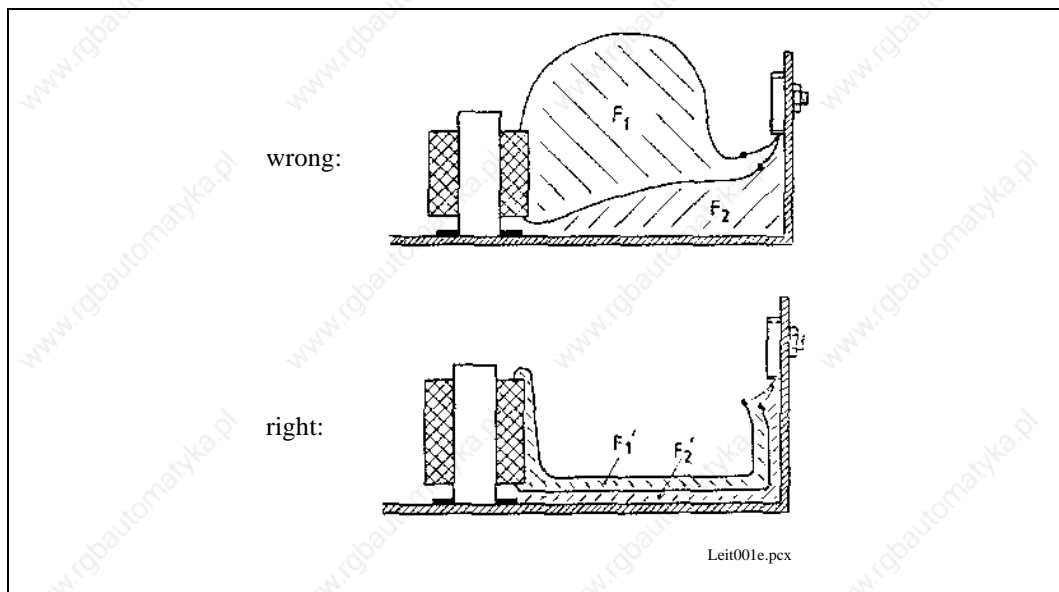

Fig. 27: Laying of individual strands
- The cabling should be laid as near as possible to the reference potential (freely hanging leads act as aerials) (see Fig. 27).